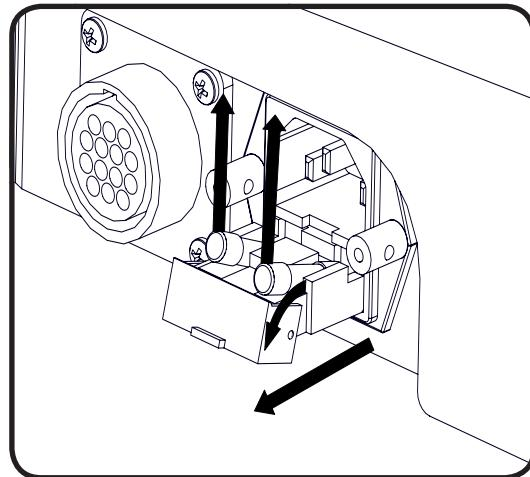

Figure 1
4. Insert new fuse(s) with same type of fuse removed in step 3. (See figure 1 below) See "SPECIFICATIONS" on page 22 for fuse type.